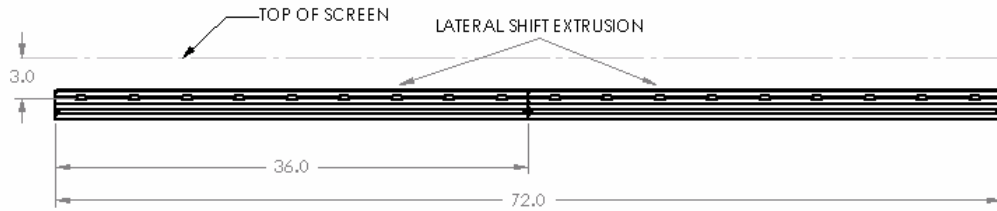

Figure 4
1. Install the top two lateral shift extrusions to the wall; drill about 3" below the level you would like the top of the screen to sit, making sure both are level and allow a T-slot Nut to slide freely between each extrusion (see Figure 4). You may use the existing slots located in the extrusions for installation. If necessary, drill holes in the aluminum extrusion using the grooves located between each slot.